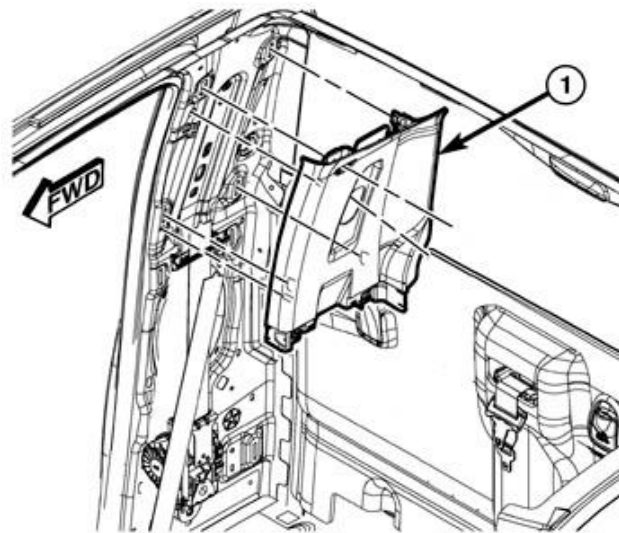

Figure 76 – C-Pillar Upper Trim Panel
15. Release the retaining clips and remove the C-pillar upper trim panel (1) (Figure 76).